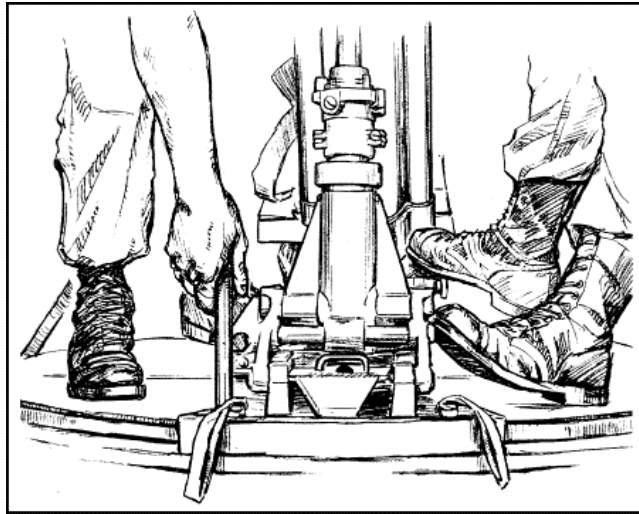

Figure 6-23. Assistant gunner locking the turntable traversing handle.
- (5) The gunner commands PUSH. At this time the assistant gunner pushes the turntable with his right foot; and the gunner pushes with his right foot and pulls with his right hand.
- (6) When the gunner has the approximately correct sight picture, he commands HOLD. Upon confirming this sight picture, he commands LOCK.
- (7) The assistant gunner locks the traversing lock handle with his right hand (Figure 6-23) or right foot. (The gunner does not attempt to finalize his sight picture before the assistant gunner locks the turntable.)